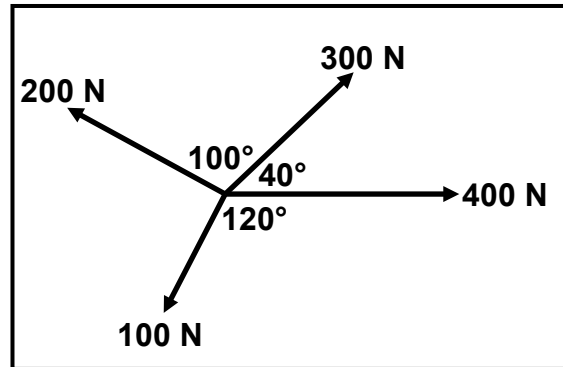

FIGURE 7.1
7.1 Four forces are acting on the same point, as shown in FIGURE 7.1 below. Determine, by means of calculations, the magnitude and direction of the resultant of the system of forces in FIGURE 7.1.